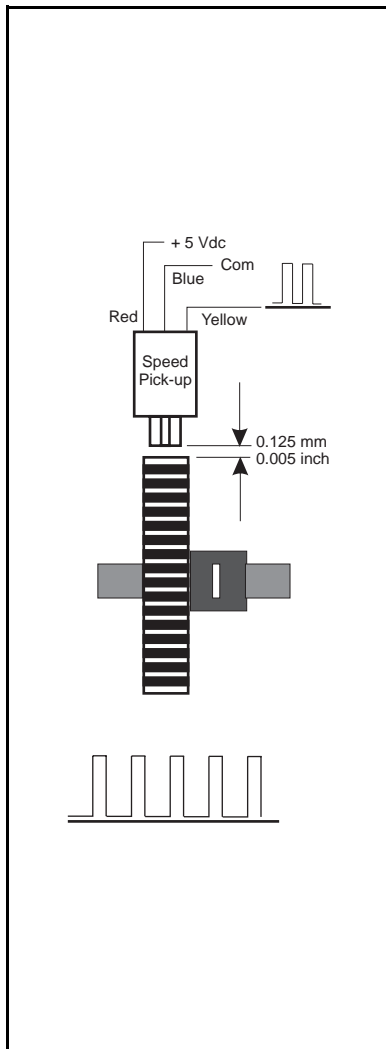

Fig. 10.1 Speed pick-up adjustment
- At the feeder: connect oscilloscope between common and signal. (Fig. 10.1)
- Set pick-up according to fig. 10.1 and check the gap and the waveform per fig. 10.1.